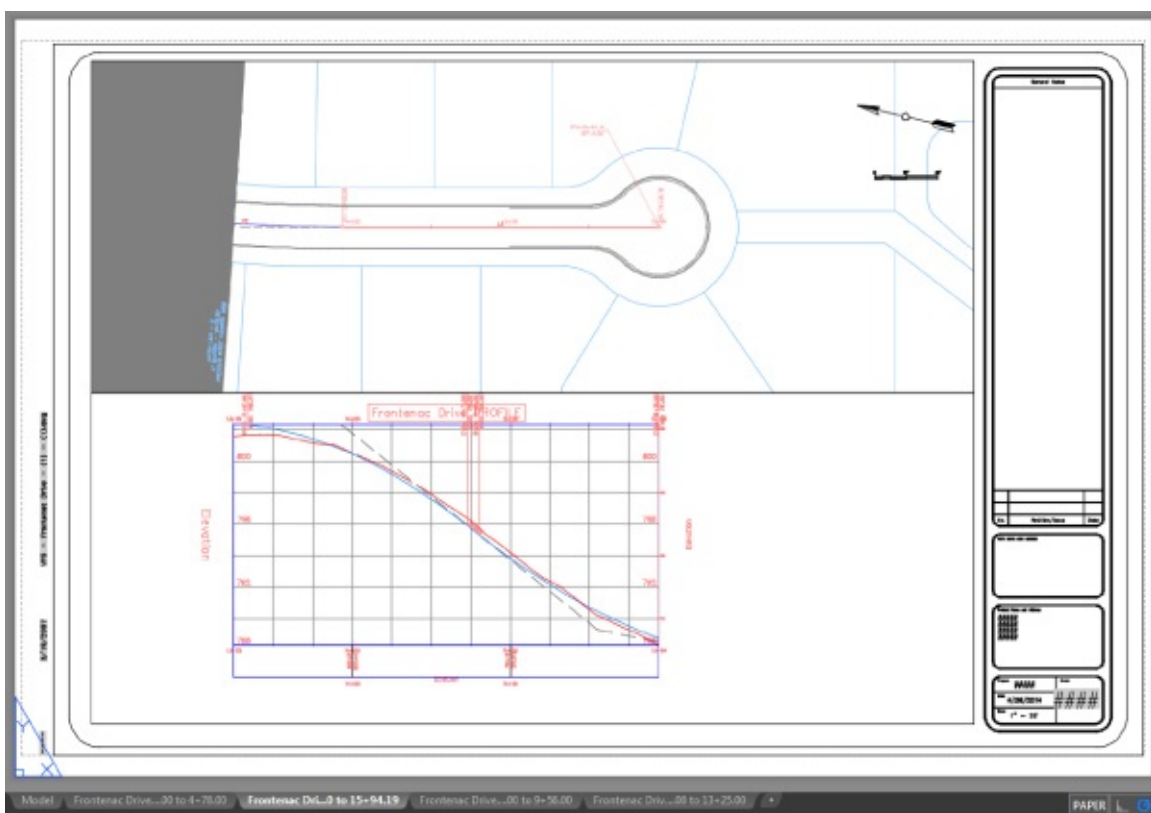

Figure 15.19 The template produces the Frontenac Drive tab names shown here assigned to each sheet.
If you double-click to open the new drawing file that contains the newly created sheets, you'll see layout sheet tabs created for each of the view frames as selected in the Create Sheets Wizard. The sheets are named using the Name template as defined in the Create Sheets Wizard. Figure 15.19 shows the names that result from the following template:
4. Review the multiple tabs created in this drawing file as previously shown in Figure 15.19. If layout tabs are not displayed, then you may turn them on in the Options dialog, by going to the Display tab ➤ Layout Elements area, and filling the Display Layout And Model Tabs check box.